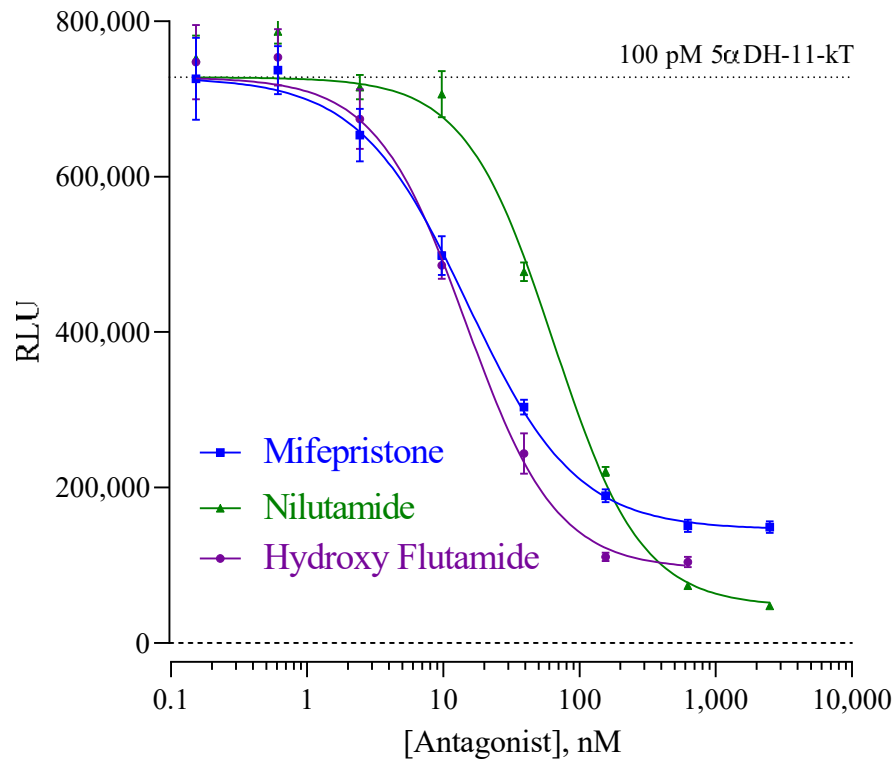

Figure 3. Antagonist dose-response of the AR Assay.
- *Optional:* antagonist reference compound (refer to Figure 3)